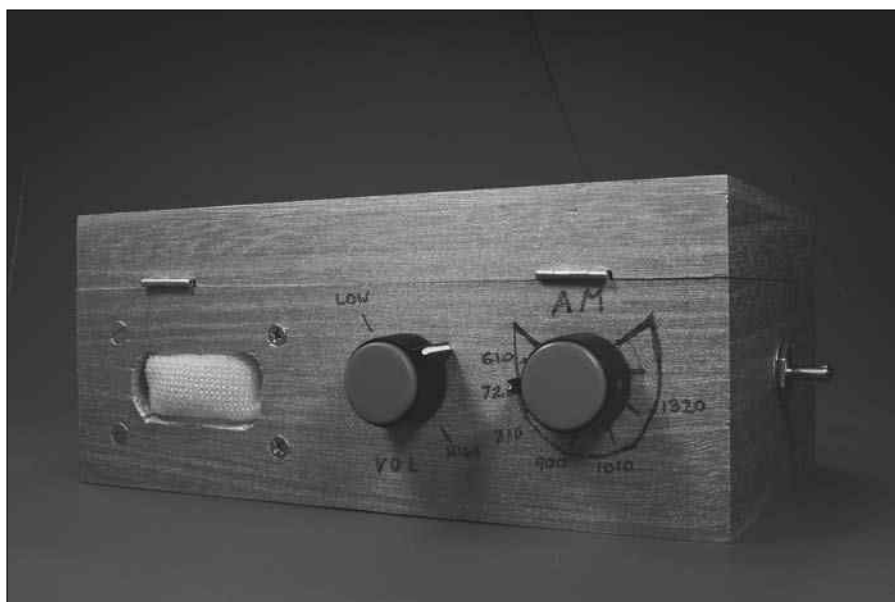

Figure 8-15:
6. **Close the lid on the box and admire your finished radio, as shown in Figure 8-15.**